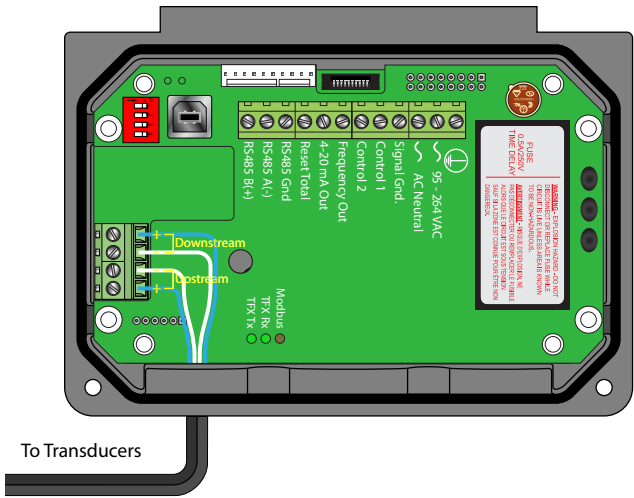

Figure 5: Transducer connections
- 4. The terminals within transmitter are screw-down barrier terminals. Connect the wires at the corresponding screw terminals in the transmitter. Observe upstream and downstream orientation and wire polarity. See *Figure 5*.